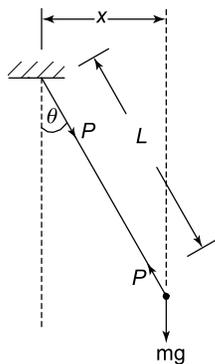

Figure 18.6
A simple pendulum consists of a particle of mass  $m$  attached to a mass-less string of length  $L$ , as shown in Figure 18.6.
**Problem 2.** If the simple pendulum of Figure 18.6 were of length 2 m, determine its frequency of vibration. Take  $g = 9.81 \text{ m/s}^2$ .